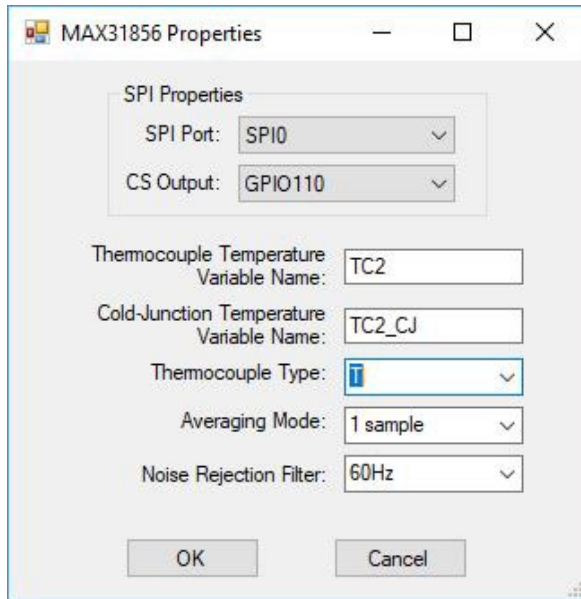

Figure 2-4 - MAX31856 Channel Properties
7. A second MAX31856 Properties window (specific to the channel) will open. Refer to Figure 2-4. the variable names can be changed if desired. Using the drop-down menu, select the type of thermocouple that will be connected to the input.